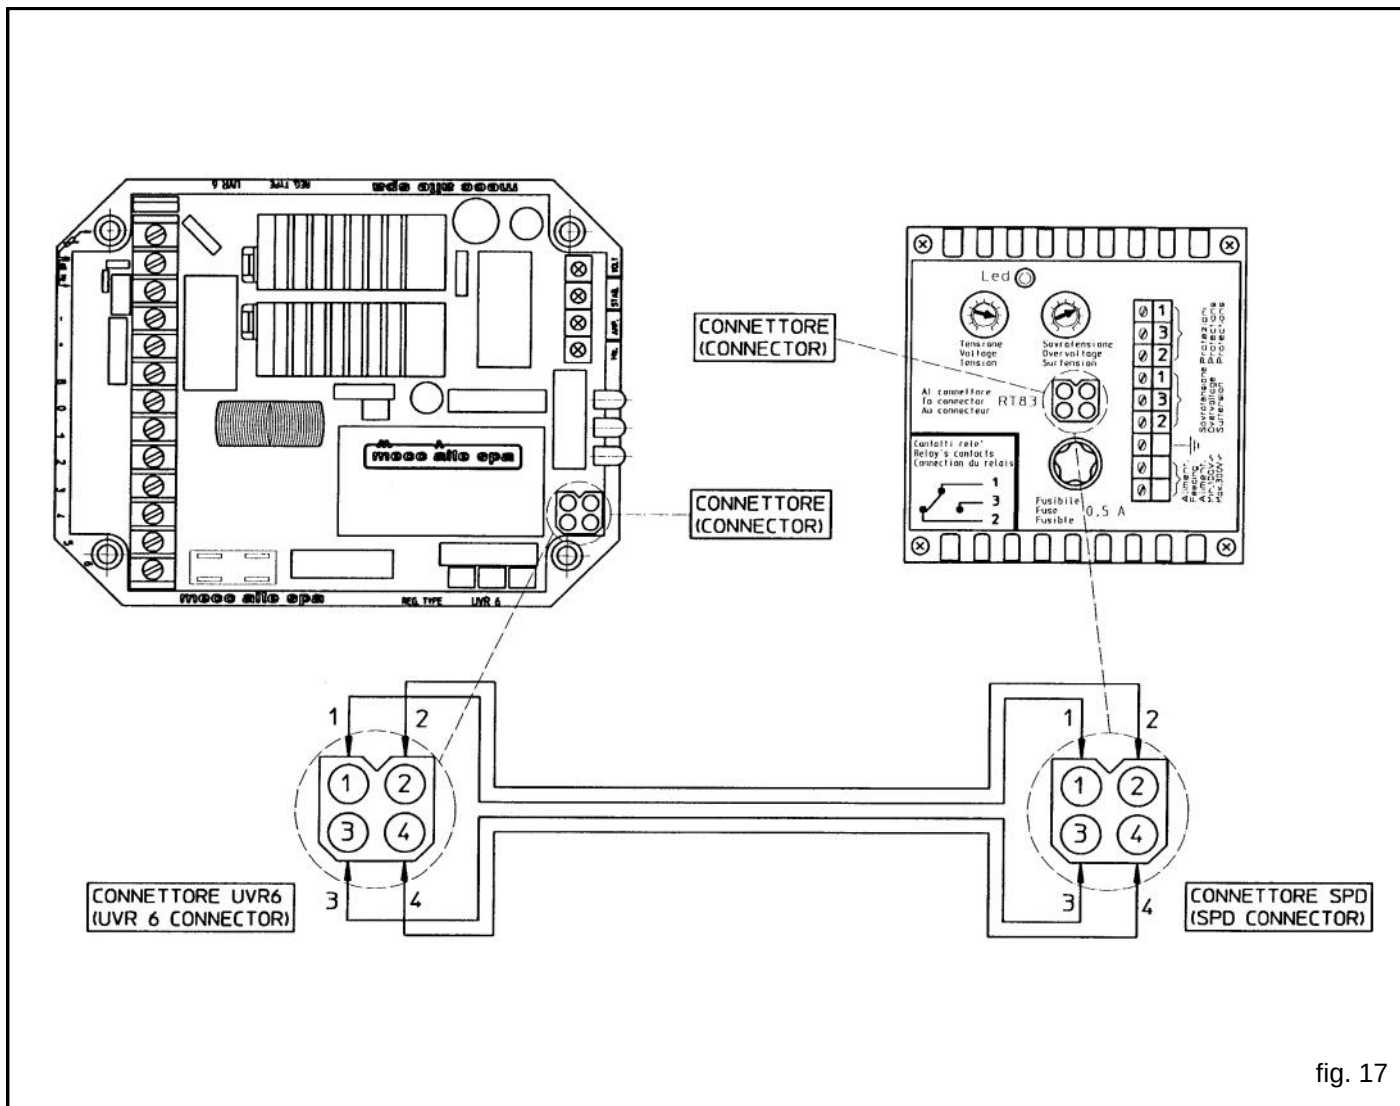

fig. 17
-) Connect the SPD96/A to the UVR6 regulator using the relevant 4-pin connector (see fig. 17).